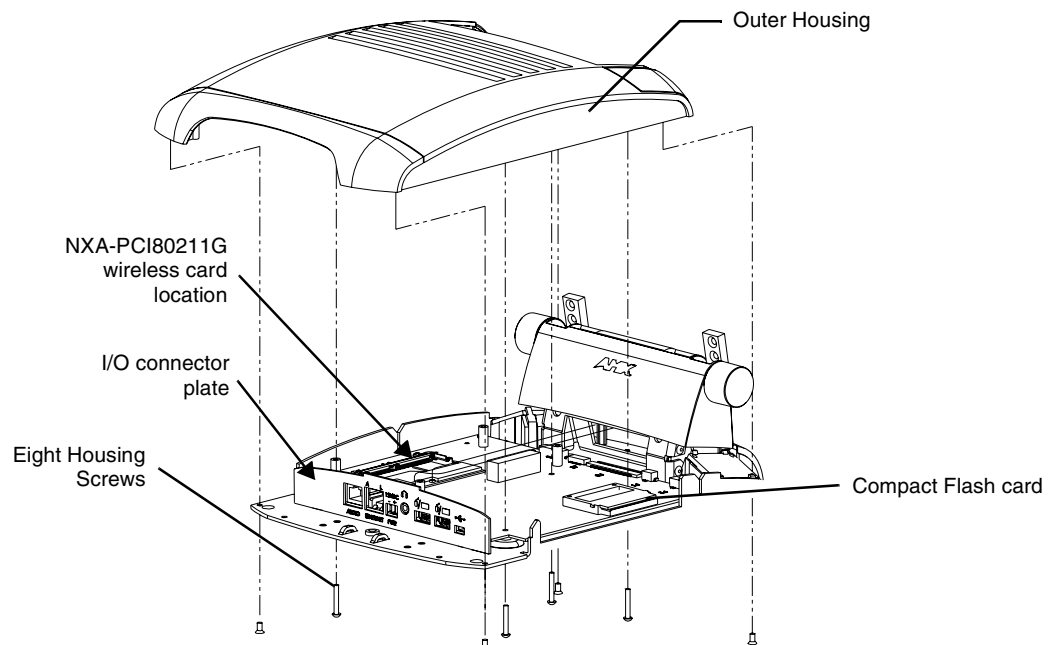
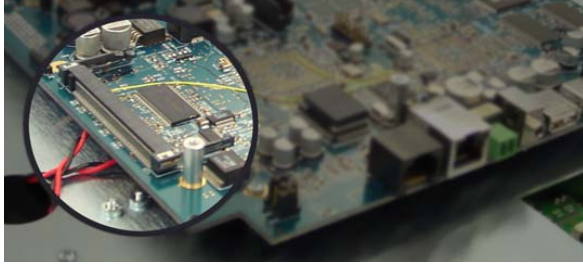

FIG. 17 Location of the NXA-PCI80211G wireless card on the NXT board
FIG. 18 Location of the mini-PCI card connector on main board
2. Locate the mini-PCI card connector on the main board (FIG. 17 and FIG. 18).